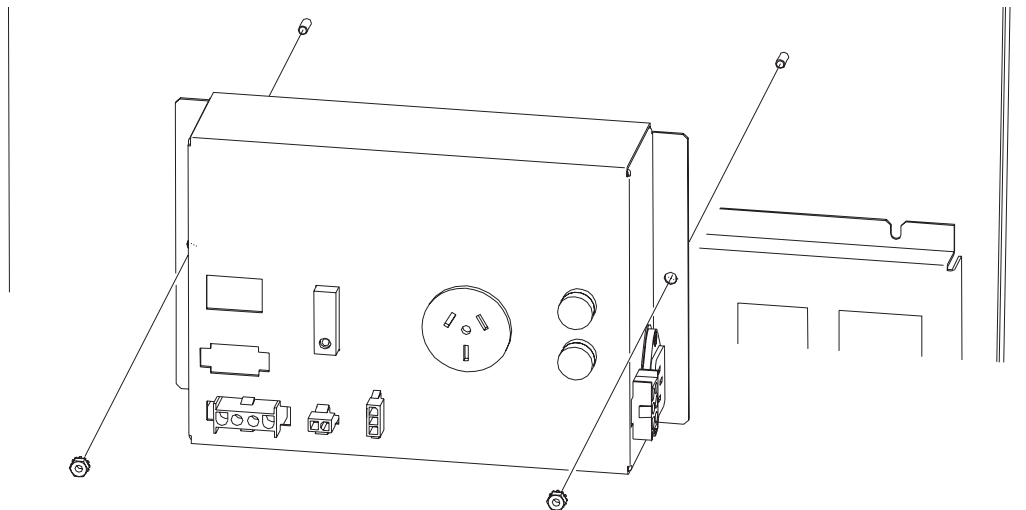

Figure 4-27 Removing the AC Power Unit
3. Using a socket wrench (7 mm) remove the two nuts attaching the power unit to the machine (see *Figure 4-27 Removing the AC Power Unit*).